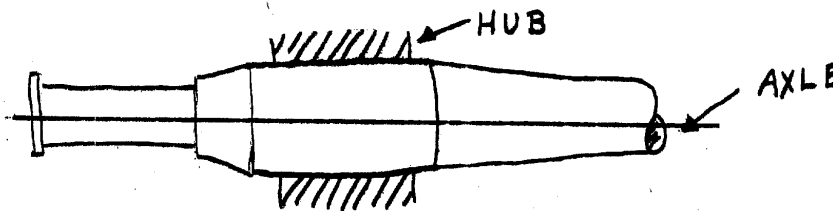

Fig 1.
1. A difference of 3.504 inches in the gauge of railroad tracks in Western Europe and the Soviet area created the problem of making axle adjustments. Soviet tracks had a gauge of 1524 mm whereas Western European tracks had a gauge of 1435 mm. This difference necessitated an adjustment of 1.752 inches per wheel. (Fig 1).